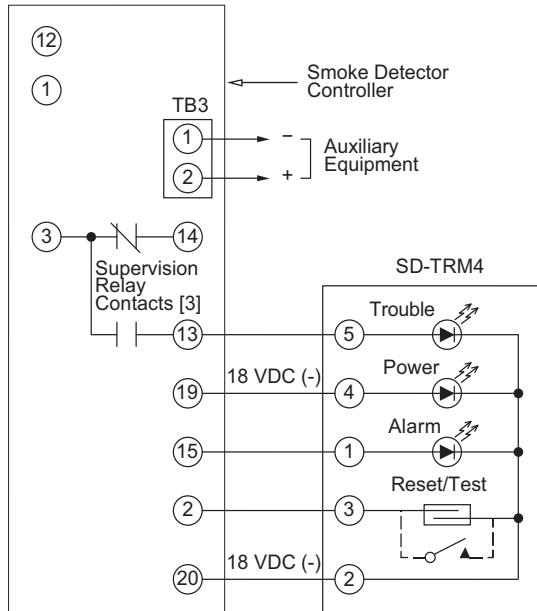

Fig. 58 — Remote Test/Reset Station Connections
The test/reset station dirty sensor test checks the test/reset station's ability to initiate a sensor dirty test and indicate the results. It must be wired to the controller as shown in Fig. 58 and configured to operate the controller's supervision relay. For more information, see "Dirty Sensor Test" on page 46.
1. Verify that the remote test/station is wired as shown in Fig. 58. Repair or replace loose or missing wiring.